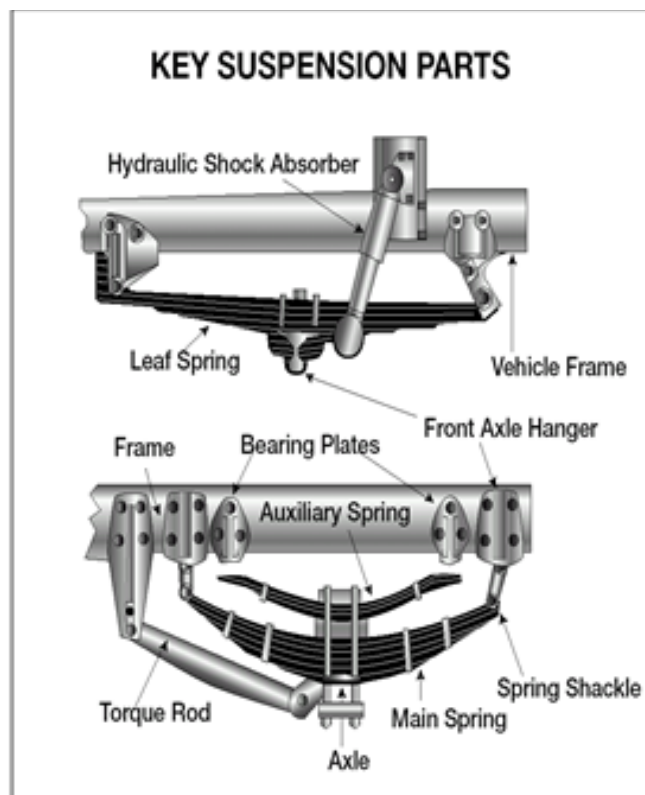

Figure 2.2
- ✓ Spring hangers that allow movement of axle from proper position. See Figure 2.2. for key suspension parts.